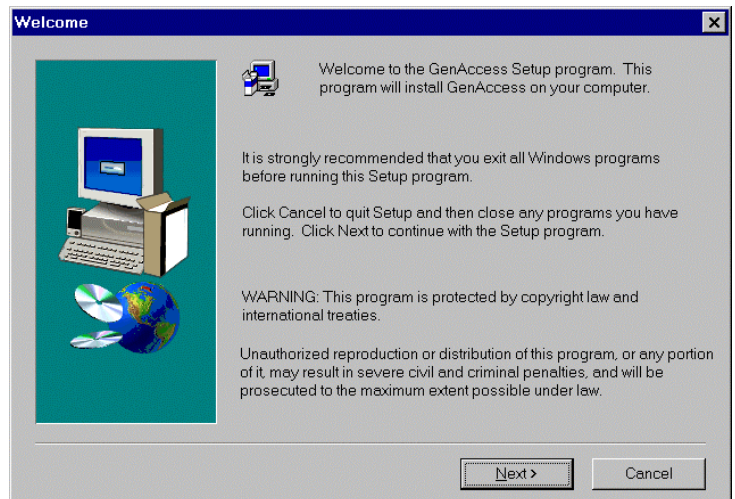

Figure 2.2 The welcome dialog box.
Step 2. Click Next on the Welcome dialog box: After displaying the splash screen and startup message box, the screen stops at the Welcome dialog box shown in Figure 2.2. This is the first dialog box in the setup process. The information inside the box tells what to do with this dialog. Click Next to continue the setup process. Clicking on Cancel will end the setup process.